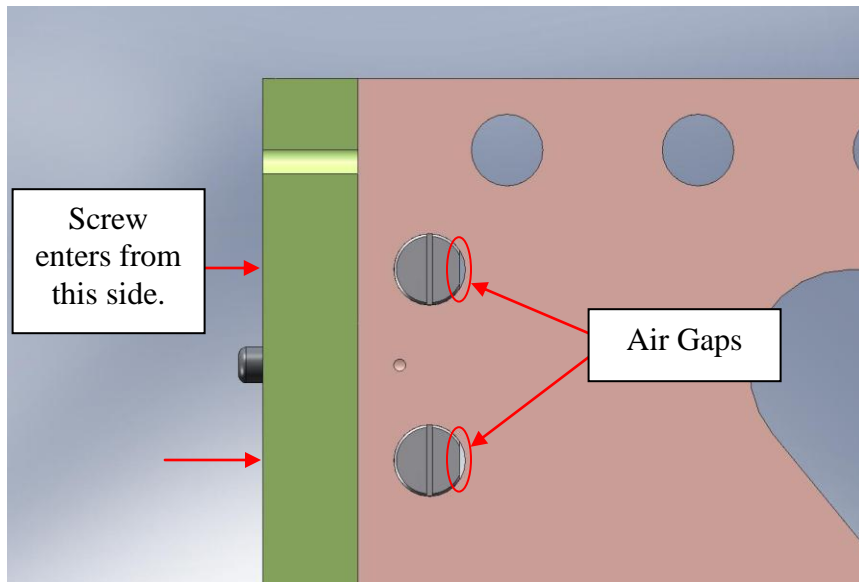

Figure 2.31. Preferred orientation of Barrel Nuts. Flat side should always face away from the screw, to minimize stress concentrations.
- Place (7) **Type 00 Barrel Nuts** (D071250-00) into holes along the side of the **Mid-Radial Rib** (D071054). Flat side of each Nut should face away from its screw, as shown in Figure 2.31. Thread in mating screws. Torque to final spec.